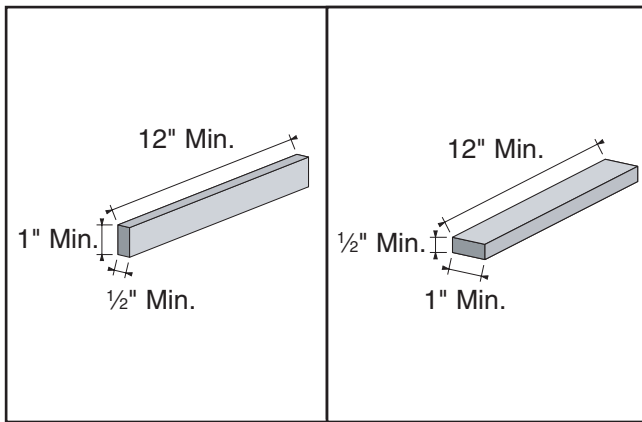

Figure 30. Minimum dimensions for edge jointing and surface planing (jointer).
- **Make sure your workpiece exceeds the minimum dimension requirements (Figures 30 & 31) before edge jointing or surface planing, or it may break or kick back during the operation!**